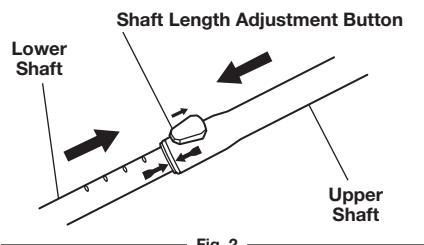

Fig. 2
- Align the arrows on the upper and lower shafts (Fig. 2).
- While pushing the shaft length adjustment button up toward the rear handle, slide the upper shaft over the lower shaft until they lock together (Fig. 2).